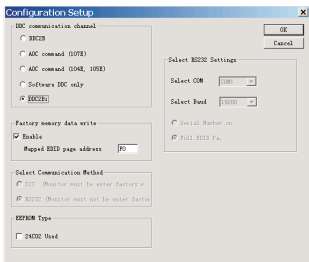

Fig. 33
2. Select the DDC2Bi as the communication channel. As shown in Fig. 33.